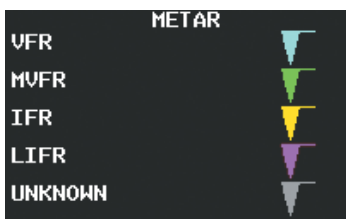

Figure 6-27 METAR Legend
To display the METAR legend (Figure 6-27) on the Weather Data Link (XM) Page, select the **LEGEND** Softkey when METARs are selected for display.